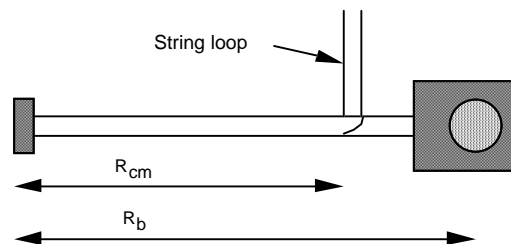

Figure 9.1
- ① Latch the pendulum at 90° so it is out of the way, then load the projectile launcher. Allow the pendulum to hang freely, and move the angle indicator to zero degrees.
- ② Fire the launcher and record the angle reached. If you want to do the experiment with a lower or higher angle, add or remove mass to the pendulum. Repeat these test measurements until you are satisfied with the mass of the pendulum.
- ③ Once you have chosen the mass to use for your experiment, remove the pendulum from the base by unscrewing and removing the pivot axle. Using the mass balance, find the mass of the pendulum and ball together. Record this value as M in table 9.1.
- ④ Measure the mass of the ball, and record this as m .
- ⑤ Tie a loop in the string, and hang the pendulum from the loop. (See figure 9.1) With the ball latched in position in the ball catcher, adjust the position of the pendulum in this loop until it balances. Measure the distance from the pivot point to this balance point, and record it as R_{cm} . You may find it easier to do this by balancing the pendulum on the edge of a ruler or similar object.
- ⑥ Measure the distance between the pivot point and the center of the ball. Record this as R_b .
- ⑦ Replace the pendulum in the base, making sure that it is facing the right way. Be sure that the angle indicator is to the right of the pendulum rod.
- ⑧ Remove the launcher so that the pendulum can swing freely. With the ball in the pendulum, give it an initial displacement of 5° or less. Using the stopwatch, time how long it takes to go through at least ten oscillations. Divide this time by the number of oscillations, and record your result as T in table 9.1.
- ⑨ Calculate the value of I , and record it in table 9.1.
- ⑩ Load the launcher, then set the angle indicator to an angle $1\text{--}2^\circ$ less than that reached in step 2. This will nearly eliminate the drag on the pendulum caused by the indicator, since the pendulum will only move the indicator for the last few degrees.
- ⑪ Fire the launcher, and record the angle reached by the pendulum in table 8.1. Repeat this several times, setting the angle indicator to a point $1\text{--}2^\circ$ below the previous angle reached by the pendulum each time.